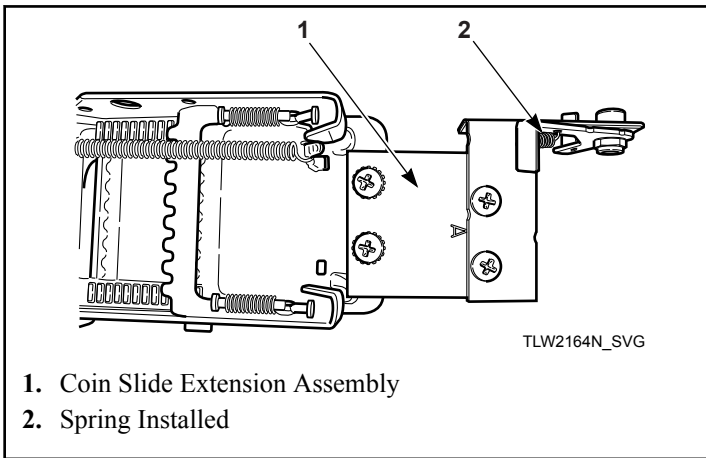

Figure 37
6. Install coin slide extension assembly onto top of coin slide using two remaining screws and lockwashers. Place lockwasher under head of screws, above bracket "A". Refer to *Figure 37*.
3. Install slide extension onto top of coin slide using two screws. Refer to *Figure 37*.